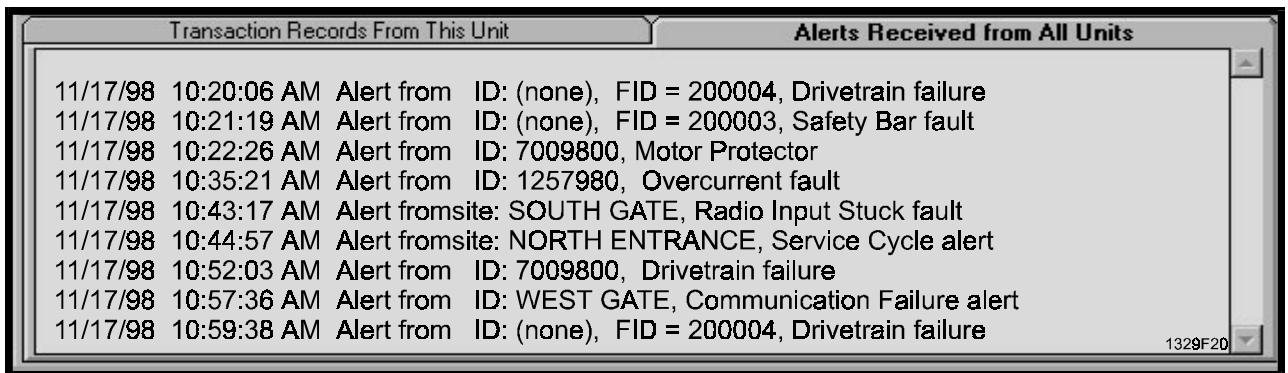

**Figure 26: Incoming Alerts From All Units Screen (X1/X3)**
**ALERT MESSAGES:** can be received and displayed (Figure 26) when: